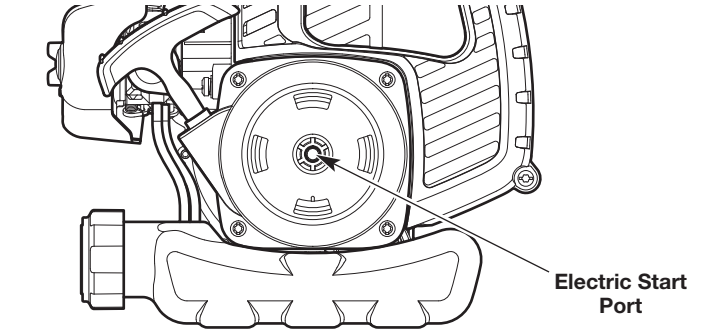

Fig. 10
4. Insert the electric start accessory into the electric start port (Fig. 10).